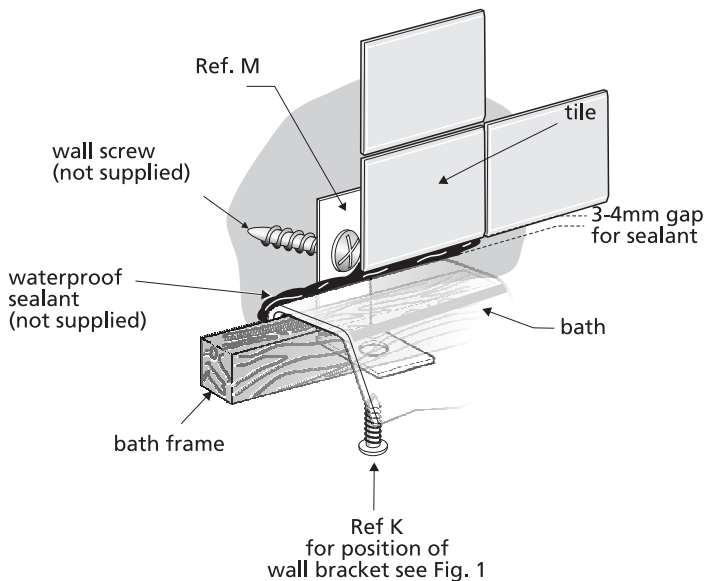

Fig. 6
8. Fit the two wall fixing brackets to bath frame as indicated in Fig. 6 and Fig. 1. Pilot drill holes ($\varnothing 3\text{mm}$) in frame before fixing brackets.
14. Tile down to the height of the bath rim leaving a 3-4mm gap for waterproof sealant, see Fig. 6. An extruded sealing strip can be used for the bath to wall joint as an alternative to waterproof sealant. Protect bath during tiling.